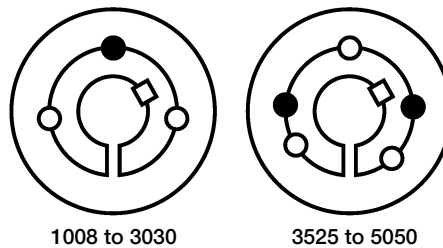

Figure 1
2. Insert screws into all jack screw holes indicated by • (see figure 1).